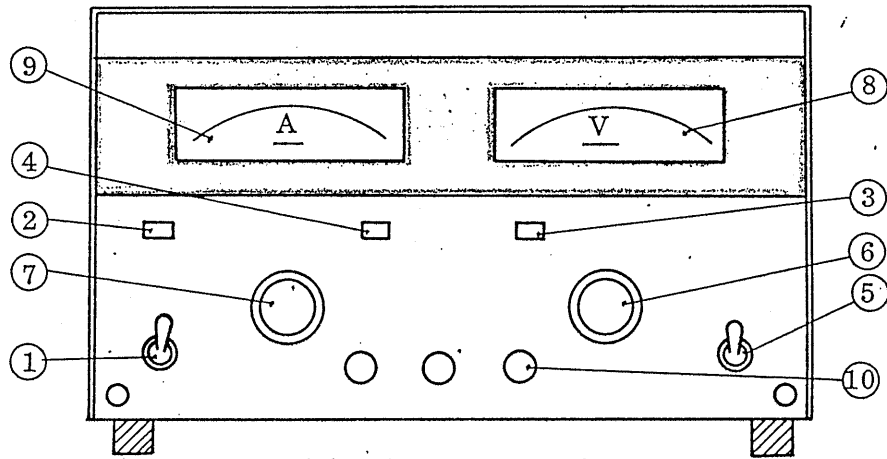

Fig. 1 Front Panel
3.1 Explanation of panel (See Fig. 1)